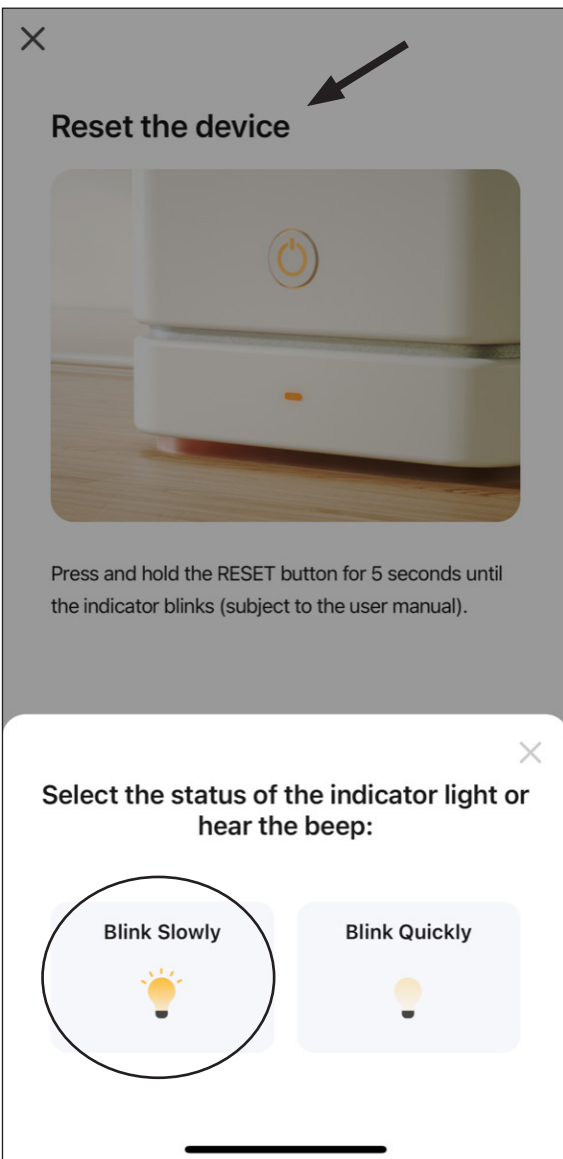
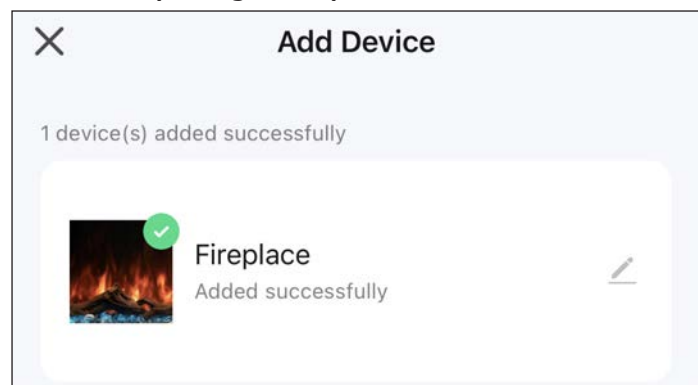

Figure 24: Fireplace Pairing
Figure 25: Fireplace Successfully Paired
7. With the fireplace now in pairing mode select the **Blink Slowly** option on the **Reset the Device** screen in the app (see figure 24). The app will begin pairing to the fireplace on a timing screen and automatically finish once pairing is successful (see figure 25).